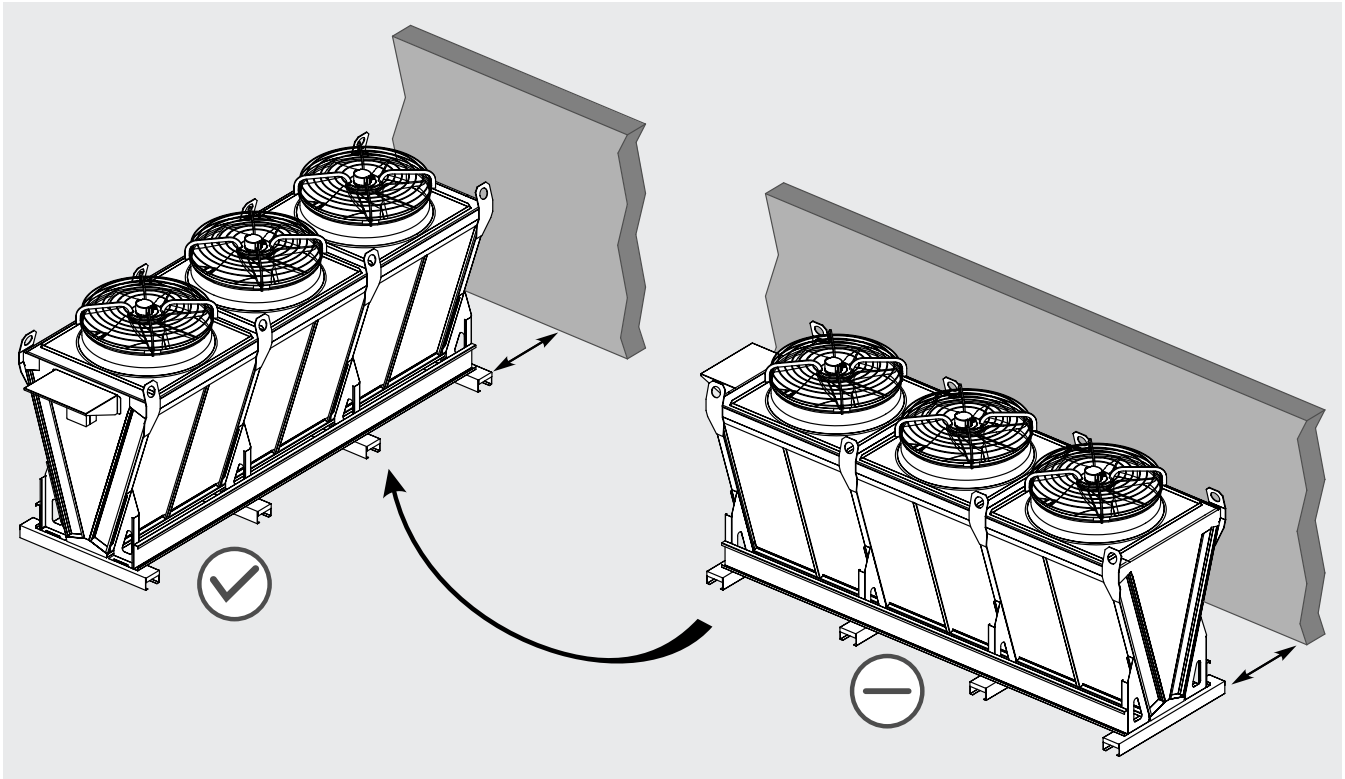

Figure 6
- 4.7 In the case of installation near a wall or other obstacle that may significantly affect the flow of air through the heat exchanger (fences, hedges, windbreaks, etc.), position the model, when possible, with the suction surface right-angled to the obstacle. See Figure 6.